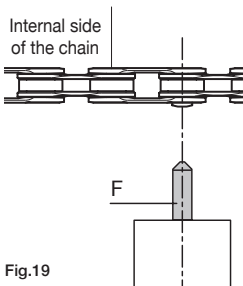

Fig.19
- Check that the tapered tip of the pusher is in line with the centre of the bushing ULTRA-LINK 5-CN-SR700 (Fig. 19).